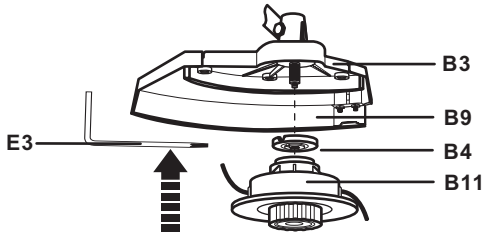

Fig. 8
5. Screw the trimmer head (B11) on the spindle anti-clockwise (B2). (See Fig. 8)